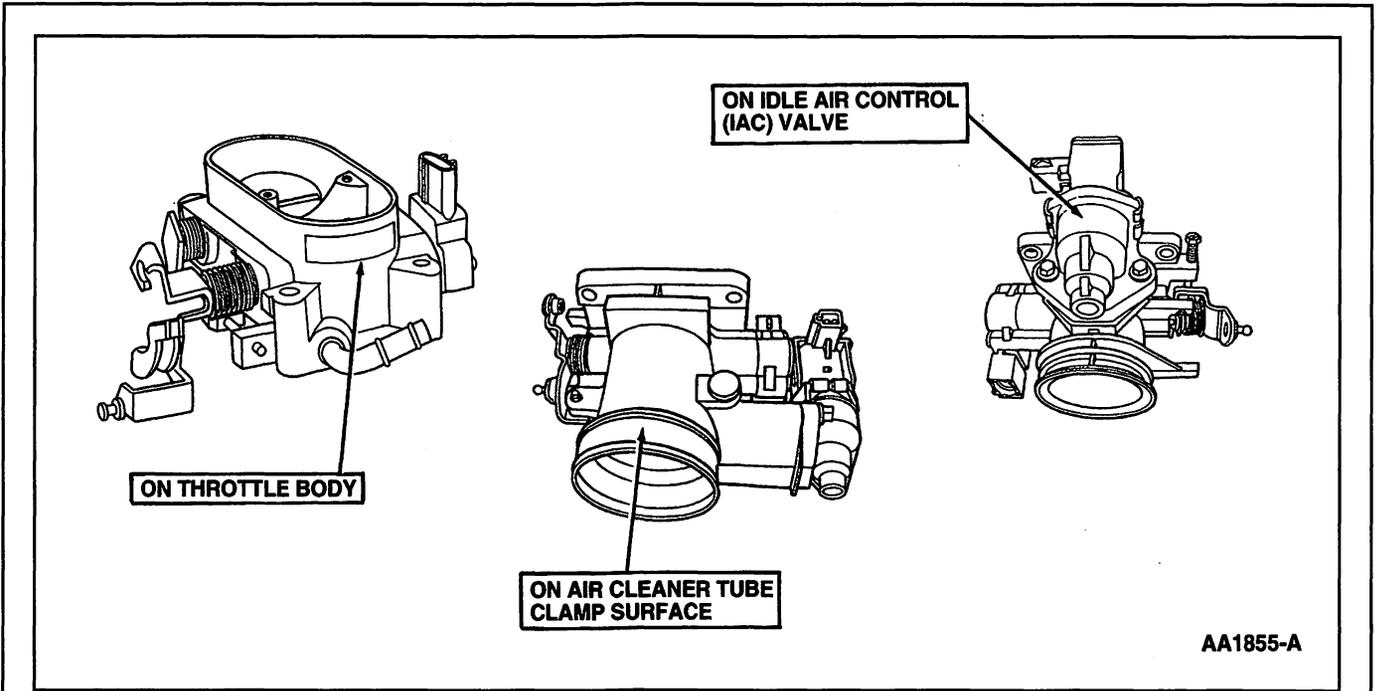

Figure 110: Typical Attention Decal Locations
6. A throttle body-mounted throttle position (TP) sensor.
7. A sealant/coating on the throttle bore and throttle plate makes the throttle body air flow tolerant to engine intake sludge accumulation. These throttle body assemblies **MUST NOT BE CLEANED** and have a white/black attention decal (Figure 110) advising not to clean.